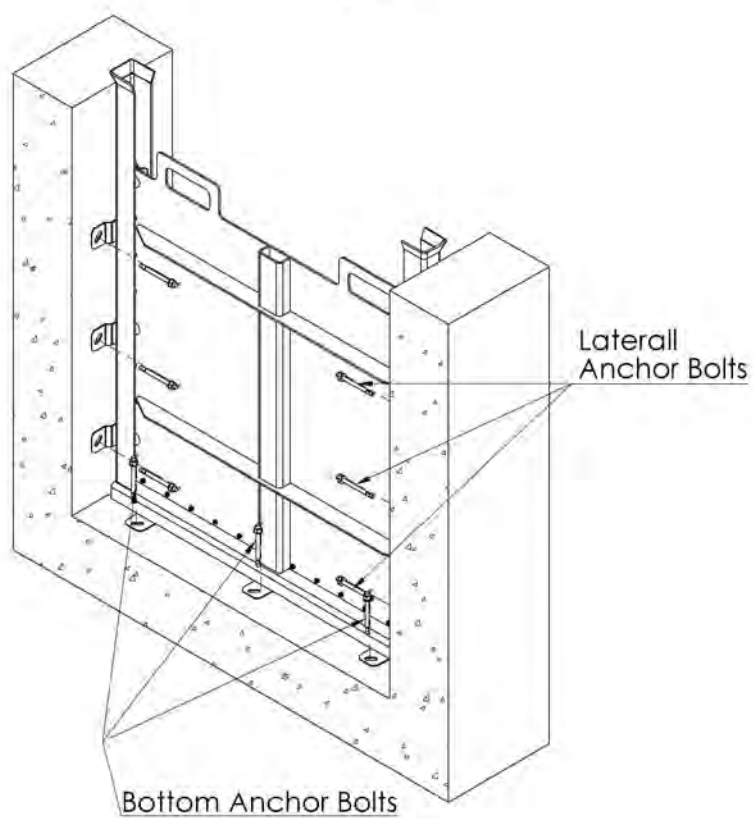

Figure 7
- Install the bottom anchor bolts, and then the lateral anchor bolts (see Figure 7).